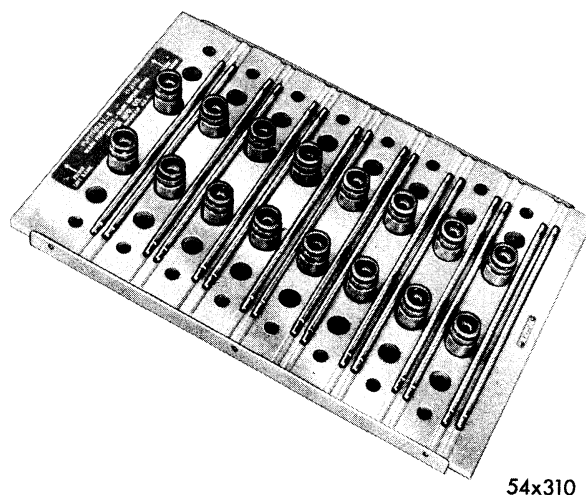

Fig. 11—Tappets and Push Rods In Holder
- (20) Remove the bolts and lockwashers that hold the tappet chamber cover to the cylinder block. Lift cover up and away from the engine. Discard the gasket.
- (21) Slide the hydraulic tappets out of the bores and place in their respective holes in the tappet and push rod holder, Tool C-3068, as shown in Figure 11. This will insure their being installed in their original locations. If tappets stick in bores due to a build-up of varnish and carbon around the tappet body (after high mileage), slowly withdraw tappet with a sharp twisting motion, using Tool C-3216, as shown in